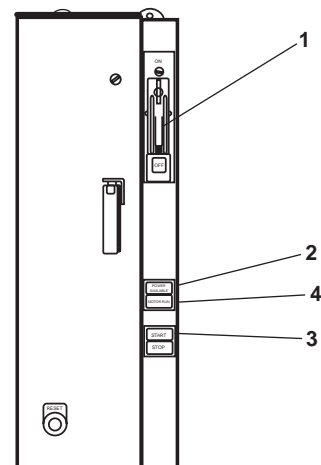

Figure 14. Single Speed Fan Motor Controller
- a. Set ON-OFF switch (figure 14, item 1) to ON.
- b. Verify that the POWER AVAILABLE indicator (figure 14, item 2) illuminates.
- c. Press and release the START pushbutton (figure 14, item 3).
- d. Verify that the MOTOR RUN indicator (figure 14, item 4) illuminates.